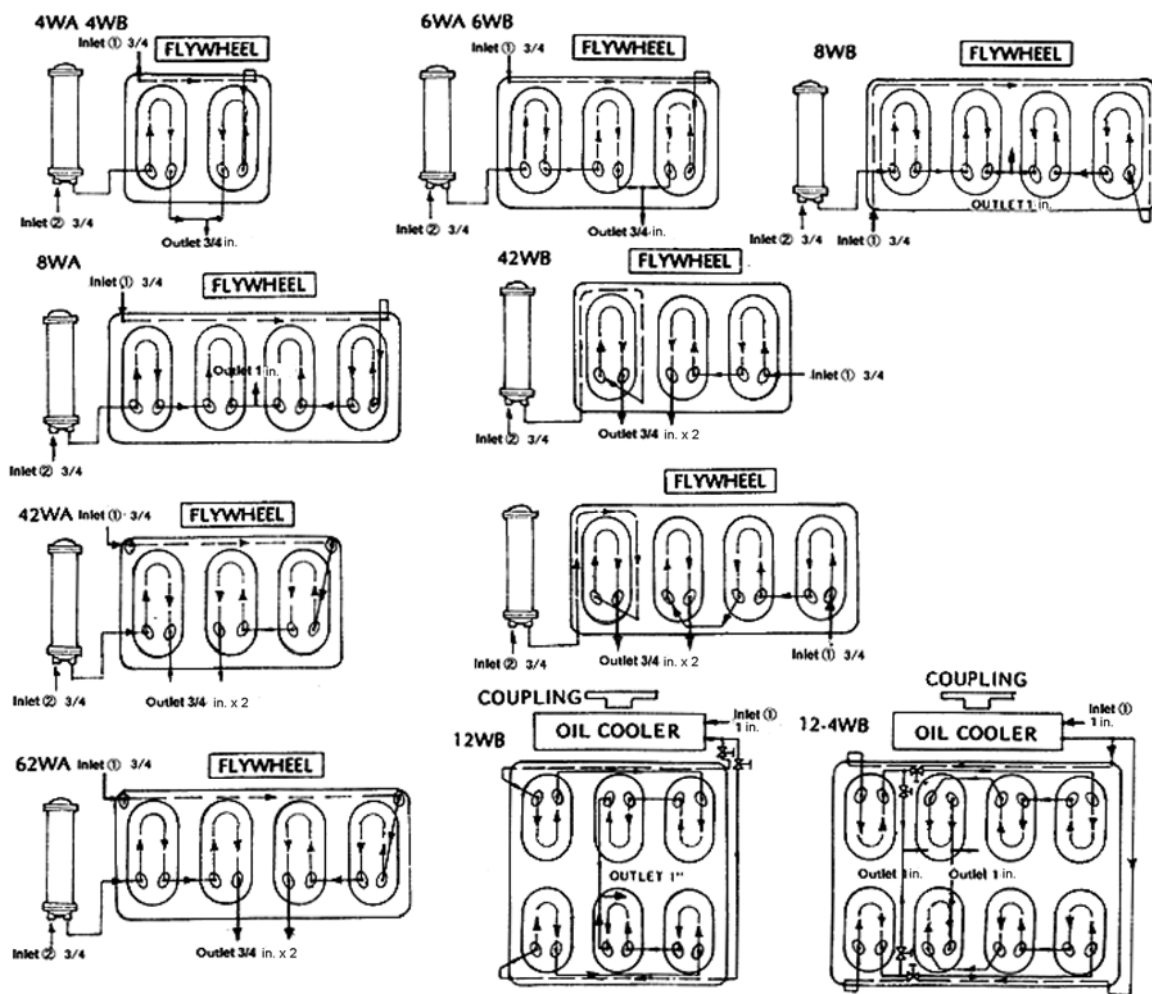

Figure 5-2 Pipe Lines for the Cooling Water (WA/WB Type Compressor)
- a) Figure 5-2 shows the pipe lines for the cooling water.